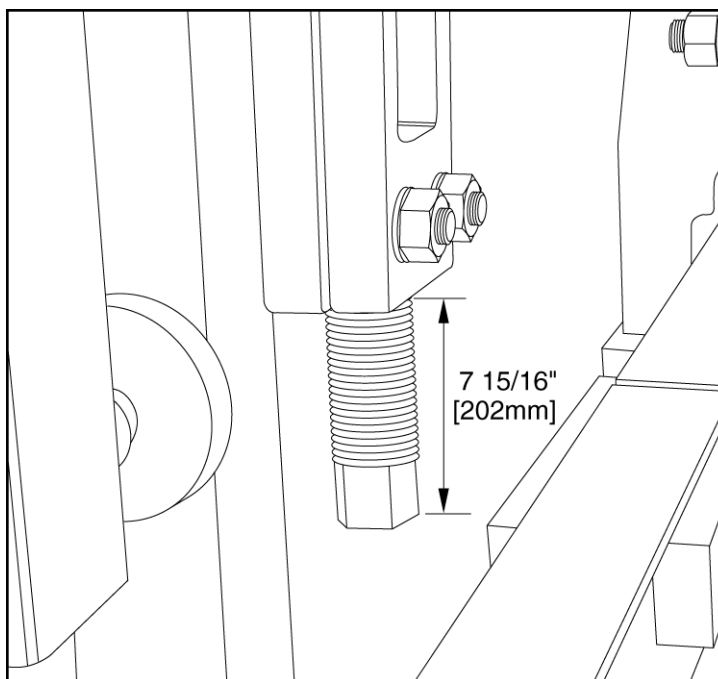

Figure 4.13 UPPER HEIGHT STOPS
4.1.6 Adjust the upper height stops so that **7 15/16" [202mm]** extends past the bottom of the castings as shown on figure 4.13.